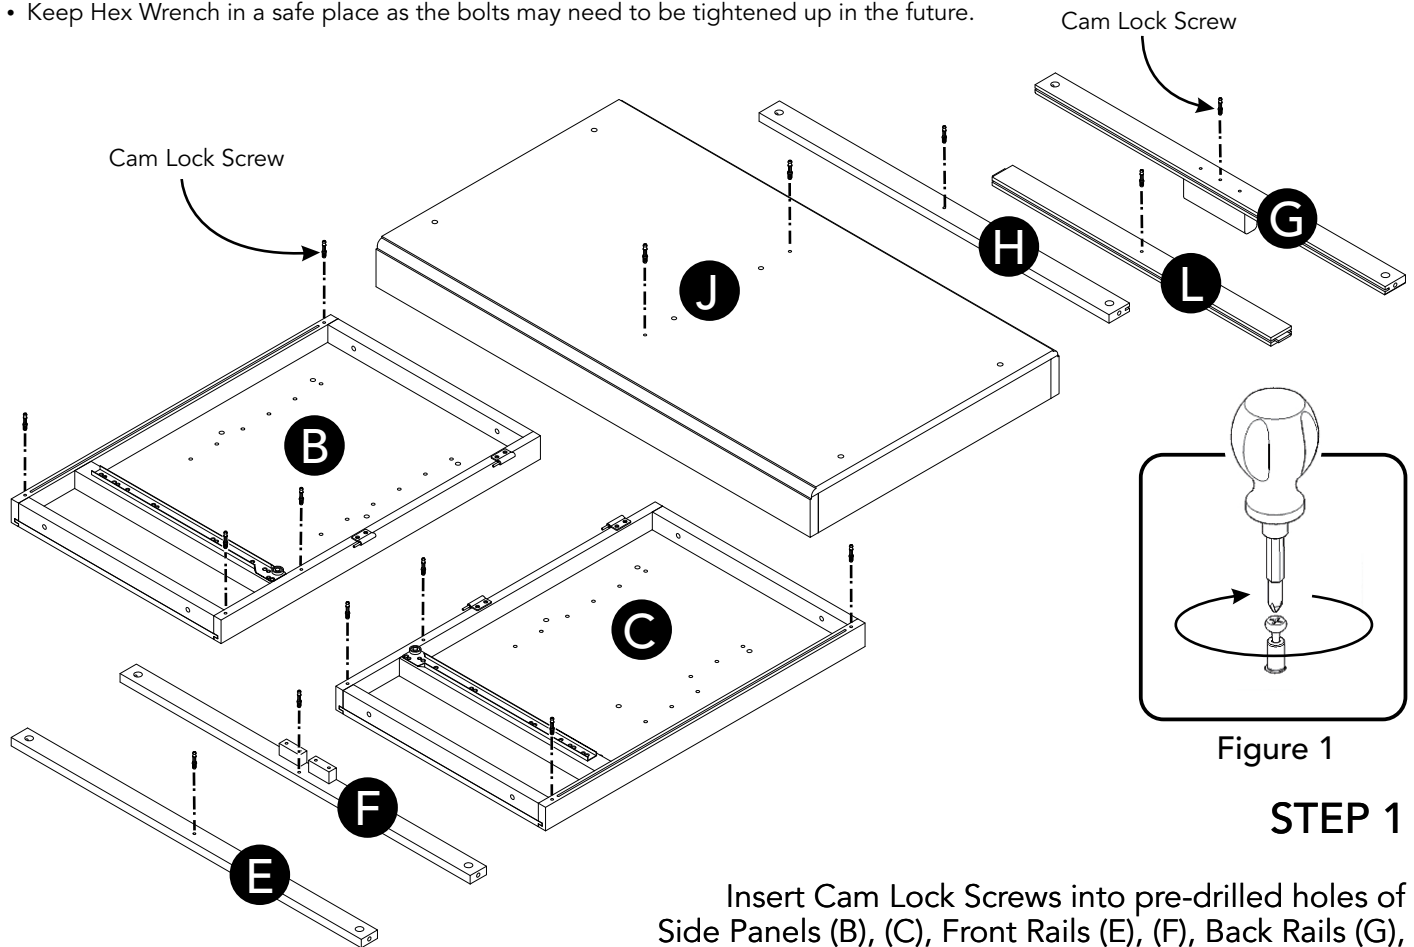

Figure 1
Insert Cam Lock Screws into pre-drilled holes of Side Panels (B), (C), Front Rails (E), (F), Back Rails (G), (H) and Back Piece (L). (See Figure 1)